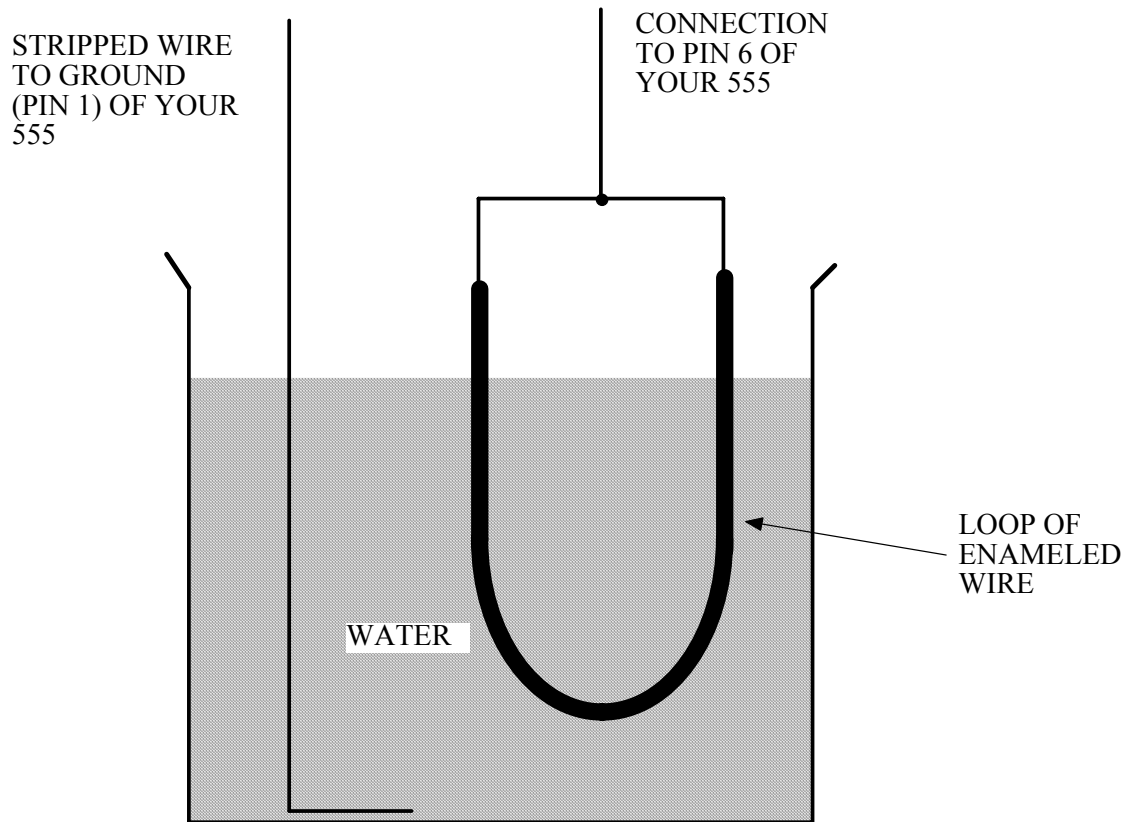

Figure 3. Home made capacitor for water level sensor
- (b) You will now replace C with a homemade capacitor consisting of two connections to a beaker of water. One connection will connect the circuit ground to the water. This can be a simple wire with the end stripped bare. Bend the wire near the end to get an L as shown in Figure 3 (The L shape helps hold the wire in the water and gives a better signal). Place the bent, bare end in the water. The other lead will be made from 10-20 inches of enameled wire — this is thin wire covered with a thin insulating varnish (paint). You may have to sand or scrape the ends of the wire to get a good electrical connection to your circuit. This is not as easy as it sounds! Be sure that no bare metal from this second wire comes in contact with the water. Fold this wire into a loop and place it into a beaker partially filled with water. Connect the two bare ends of this wire together and to your circuit as shown in Figure 3.